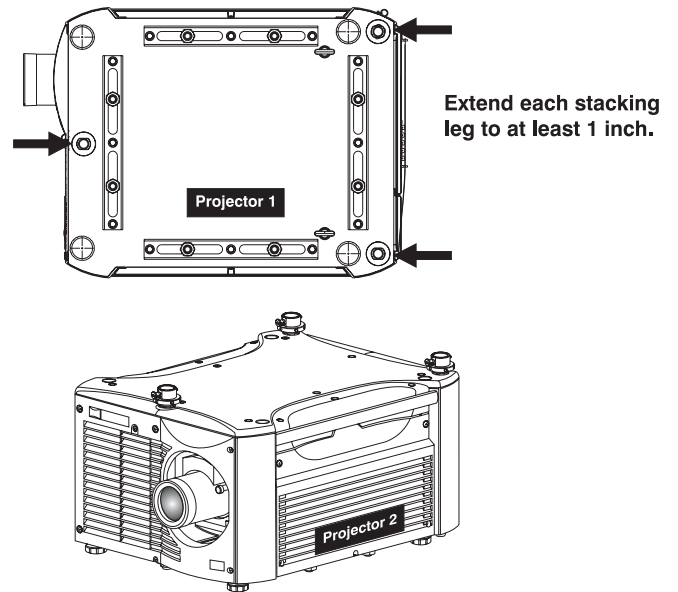

Figure 2.10. Adjust the Feet
- Place one projector on its side to access its adjustable feet and stacking legs (Figure 2.10).